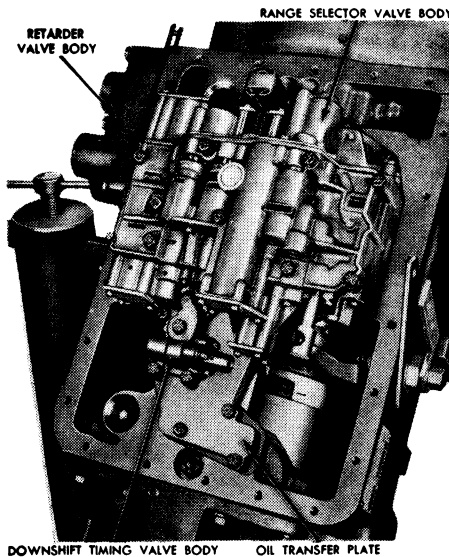

Fig. 5 Valve body and oil transfer plate
3. Remove range selector valve body, Fig. 5. *The shift valve steel detent ball and spring and the rear pump nylon ball are free to fall out of the valve body when it is removed from transfer plate.*